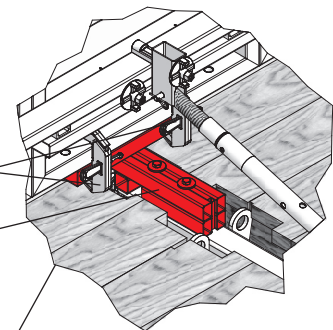

Fig. 22.3 Detail
Imperial panels are attached with two (2) M-assembly locks, MevaLite panels are attached by using two Uni-assembly locks or two (2) M-assembly locks and an adapter AF/ML. StarTec panels are either attached with two (2) Uni-assembly locks or by using an AS/ST adapter and two (2) M-assembly locks (Fig. 22.3).